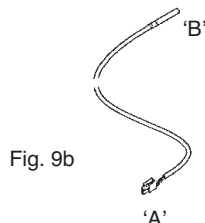

Fig. 9b
6. Drop down the boiler facia panel. Identify the electrical connection end of the DHW temperature sensor ('A' in Fig.9b).